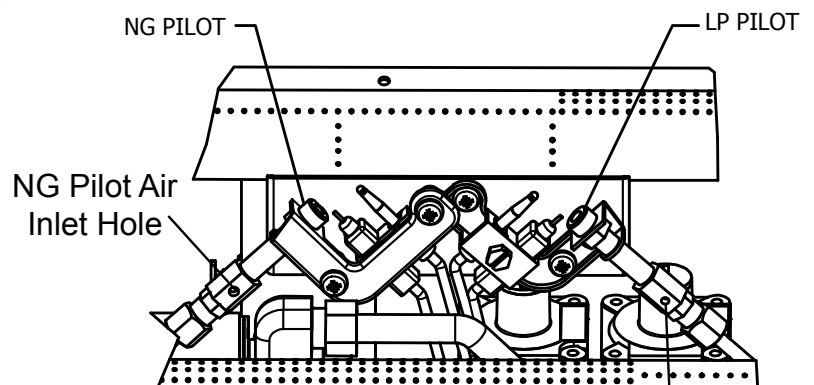

Fig. 25 - Pilot Inlet Air Hole
6. In case any large clumps of dust have now been pushed into the burner repeat steps 3 and 4. Clean the pilot assembly also. A yellow tip on the pilot flame indicates dust and dirt in the pilot assembly. There is a small pilot air inlet hole about 2" from where the pilot flame comes out of the pilot assembly (see Figure 25 depending on model). With the unit off, lightly blow air through the air inlet hole. You may blow through a drinking straw if compressed air is not available.